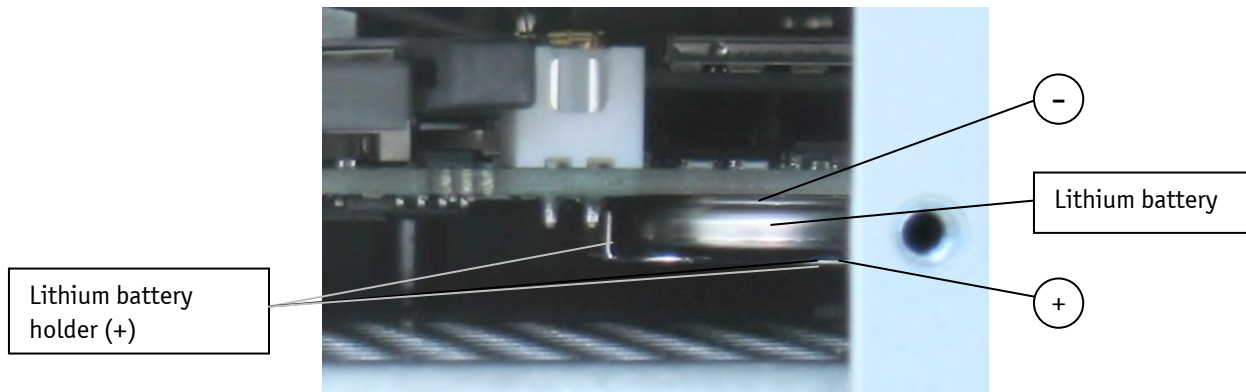

Fig. 27: Rear side detail without CF access cover
3. Remove the lithium battery from the battery holder (see Fig. 27) using a non-conductive tool.
4. Insert the new lithium battery into the battery holder. Pay attention to the polarity of the battery. The positive pole has to face down to the holder (see Fig. 27).